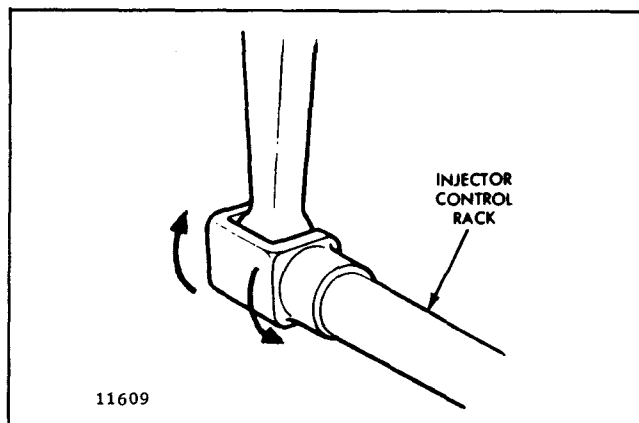
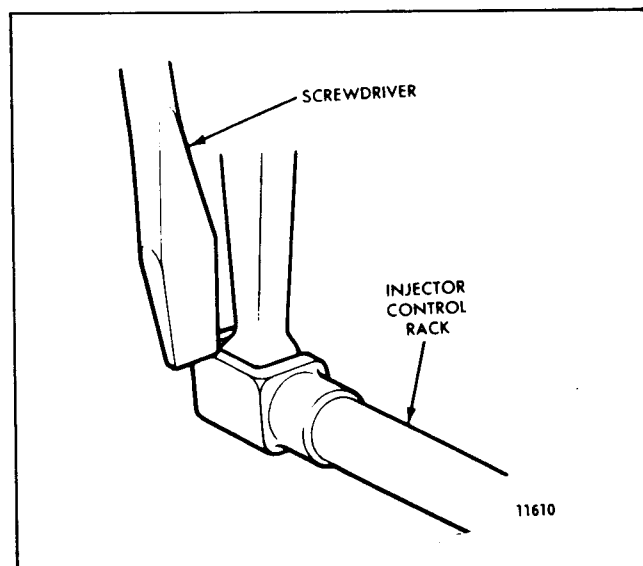

Fig. 4 - Checking Rotating Movement of Injector Control Rack
Fig. 5 - Checking Injector Control Rack Movement
4. To be sure of proper rack adjustment, hold the stop lever in the run position and press down on the injector rack with a screw driver or finger tip and note the "rotating" movement of the injector control rack (Fig. 4) when the stop lever is in the run position. Hold the stop lever in the full-fuel position and, using a screw driver, press downward on the injector control rack. The rack should tilt downward (Fig. 5) and when the pressure of the screw driver is released, the control rack should "spring" back upward.